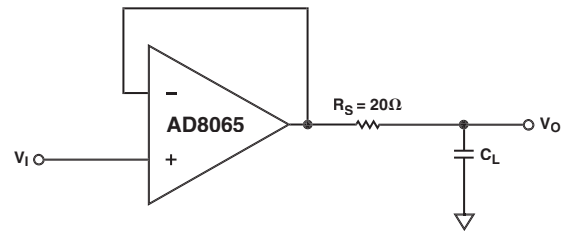

Figure 7. Output Isolation Resistor
- 1) As shown in Figure 7, put a small value resistor (R_S) in series with the output to isolate the load capacitor from the amp's output stage. A good value to choose is $20\ \Omega$ (see TPC 7).